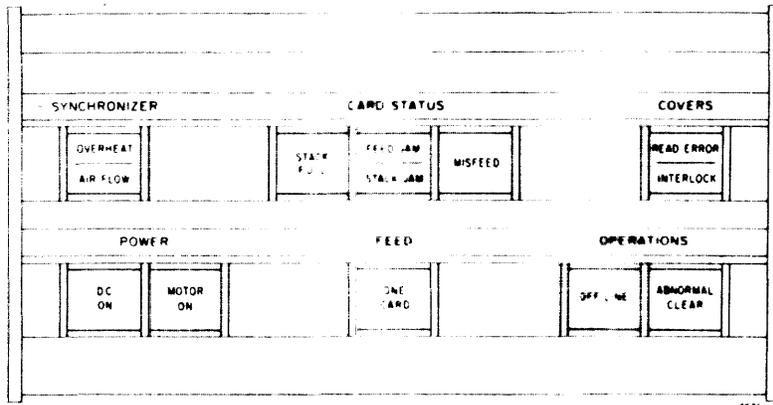

Figure 7-3. Card-Reader Control Panel
The control circuits (1) enable the system, through the synchronizer, to control card feeding and stacker selection, (2) stop the reader if any abnormal condition occurs, and (3) provide for limited control from the reader control panel. Table 7-1 lists and describes the controls and indicators on the reader control panel. Figure 7-3 shows the control panel.